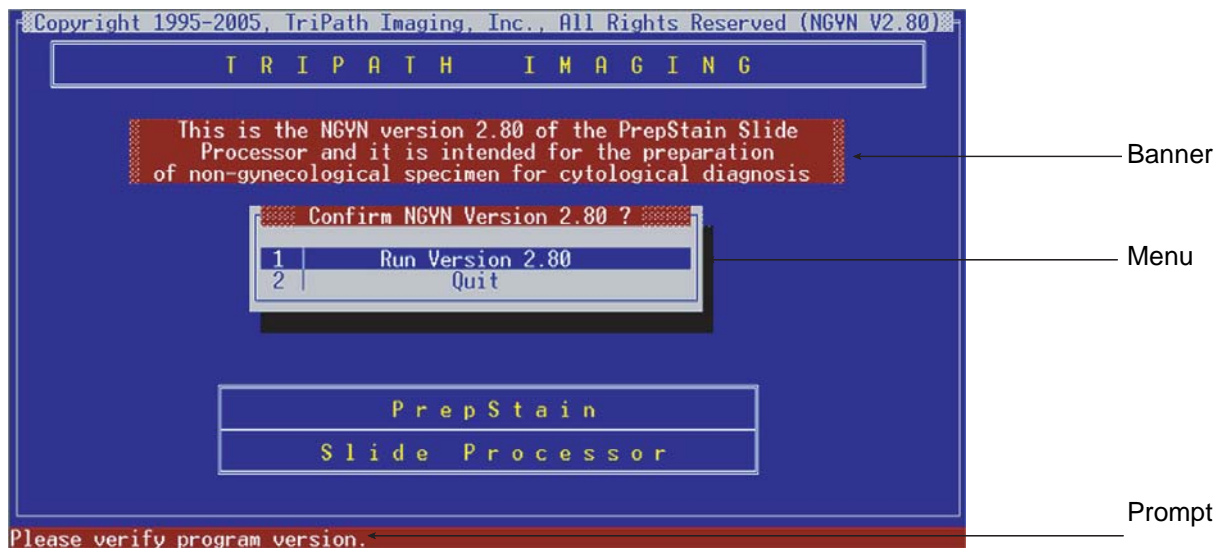

Figure C-1 PrepStain System Non-GYN Version Menu
Figure C-1 illustrates the initial welcome and version check screen that displays when you open the Non-GYN program.
The screens in the Non-GYN application are divided into three sections as illustrated in Figure C-1.
1. The GYN application runs automatically when you start the BD PrepStain™ instrument workstation. Exit this application to access a DOS prompt so that you can display the Non-GYN Version Check menu (*Figure C-1*). This screen provides access to all functions of the program.